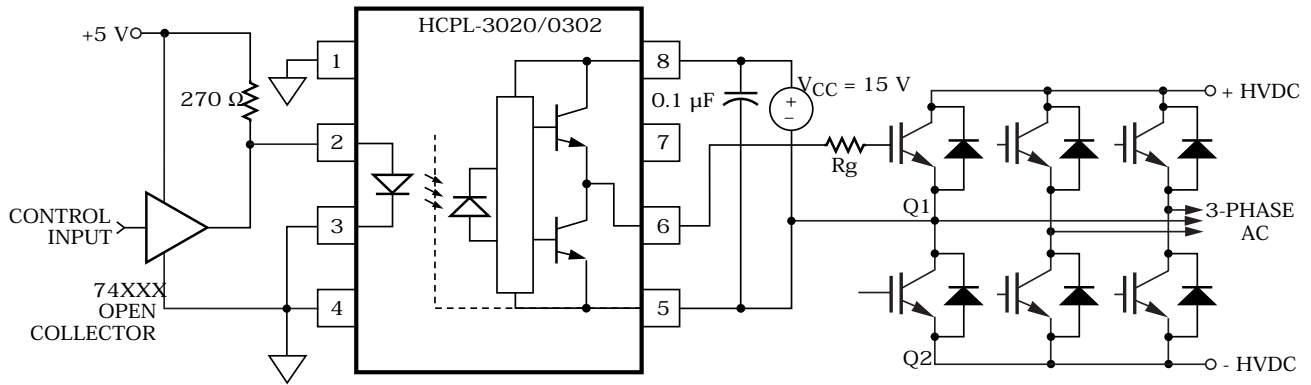
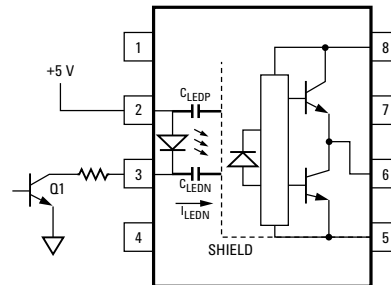

Figure 17. Recommended LED drive and application circuit for HCPL-3020 and HCPL-0302.
Figure 22. Not recommended open collector drive circuit.
To keep the IGBT firmly off, the HCPL-3020 and HCPL-0302 have a very low maximum V_{OL} specification of 1.0 V. Minimizing R_g and the lead inductance from the HCPL-3020 or HCPL-0302 to the IGBT gate and emitter (possibly by mounting the HCPL-3020 or HCPL-0302 on a small PC board directly above the IGBT) can eliminate the need for negative IGBT gate drive in many applications as shown in Figure 17. Care should be taken with such a PC board design to avoid routing the IGBT collector or emitter traces close to the HCPL-3020 or HCPL-0302 input as this can result in unwanted coupling of transient signals into the input of HCPL-3020 or HCPL-0302 and degrade performance. (If the IGBT drain must be routed near the HCPL-3020 or HCPL-0302 input, then the LED should be reverse biased when in the off state, to prevent the transient signals coupled from the IGBT drain from turning on the HCPL-3020 or HCPL-0302.
Step 1: Calculate R_g minimum from the I_{OL} peak specification. The IGBT and R_g in Figure 17 can be analyzed as a simple RC circuit with a voltage supplied by the HCPL-3020.
where $K_{I_{CC}} \cdot Q_g \cdot f$ is the increase in I_{CC} due to switching and $K_{I_{CC}}$ is a constant of 0.001 mA/(nC*kHz). For the circuit in Figure 17 with I_F (worst case) = 10 mA, $R_g = 57.5 \Omega$, Max Duty Cycle = 80%, $Q_g = 100$ nC, $f = 20$ kHz and $T_{AMAX} = 85^\circ\text{C}$:
perturbations in the LED current during common mode transients and becomes the major source of CMR failures for a shielded optocoupler. The main design objective of a high CMR LED drive circuit becomes keeping the LED in the proper state (on or off) during common mode transients. For example, the recommended application circuit (Figure 17), can achieve 10 kV/μs CMR while minimizing the component complexity.
The open collector drive circuit, shown in Figure 22, cannot keep the LED off during a $+dV_{CM}/dt$ transient, since all the current flowing through C_{LEDN} must be supplied by the LED, and it is not recommended for applications requiring ultra high CMR₁ performance. The alternative drive circuit, which like the recommended application circuit (Figure 17), does achieve ultra high CMR performance by shunting the LED in the off state.